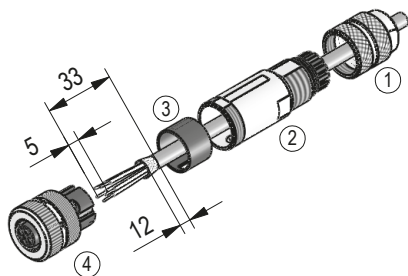

Fig. 13: Straight matting connector M12 T coded
- Accessory SIKO art. no. "89115" M12 T coded (socket 4 pole operating voltage) (Fig. 13).
### Mounting (Fig. 13)